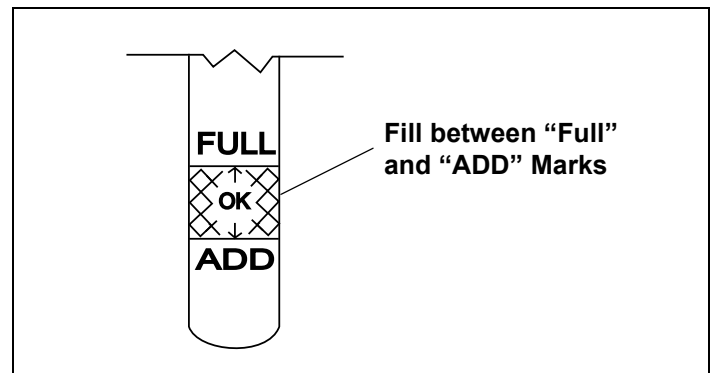

Figure 7. Engine Oil Level
- Keep oil level between "FULL" and "ADD" marks on dipstick. See Figure 7.
4. Unscrew and remove oil fill cap or oil fill plug from oil filler tube. Note oil level. If oil reading on dipstick is below "ADD" mark, slowly add oil to reach "FULL" level. See Figure 7 on page 4.